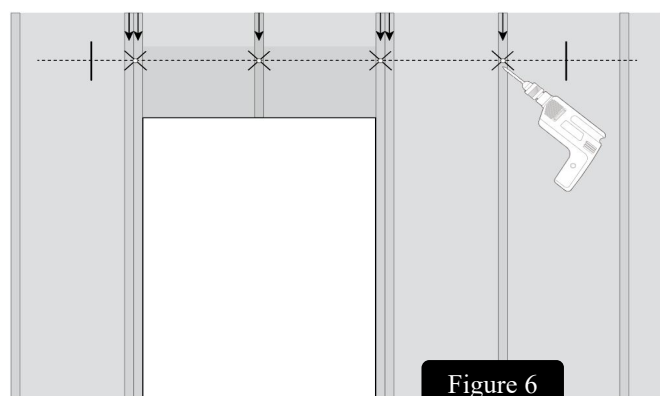

Figure 6
- **Step 6:** Predrill 4 pilot holes of 2 3/16" depth with 7/32" drill bit. (Figure 6)